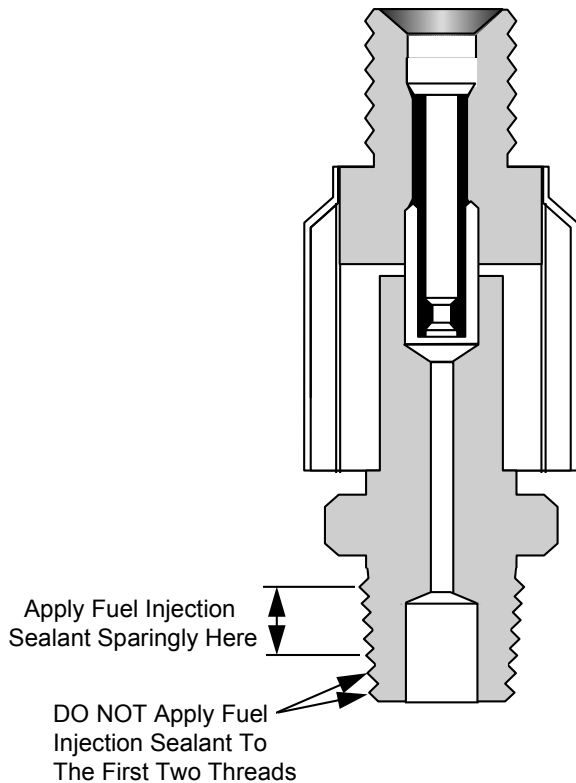

Figure 13-9
1. Fittings from the original manifold valve may be installed and oriented to the same position in the replacement manifold valve. The fittings must be clean and free of damage and debris prior to installation. Apply F/I sealant to tapered male threads in accordance with Figure 13-9. Install fittings in fuel manifold valve and orient to the original positions. Torque fittings in accordance with Table 2, "Torque Specifications For Hose Fittings."
9. Fittings from the original fuel control unit/fuel metering unit may be installed and oriented to the same positions in the new or replacement fuel assembly. The fittings must be clean and free of damage and debris prior to installation. Apply F/I sealant to tapered male threads in accordance with Figure 13-9. Install fittings and orient to the original positions. Torque fittings in accordance with Table 2, "Torque Specifications For Hose Fittings."